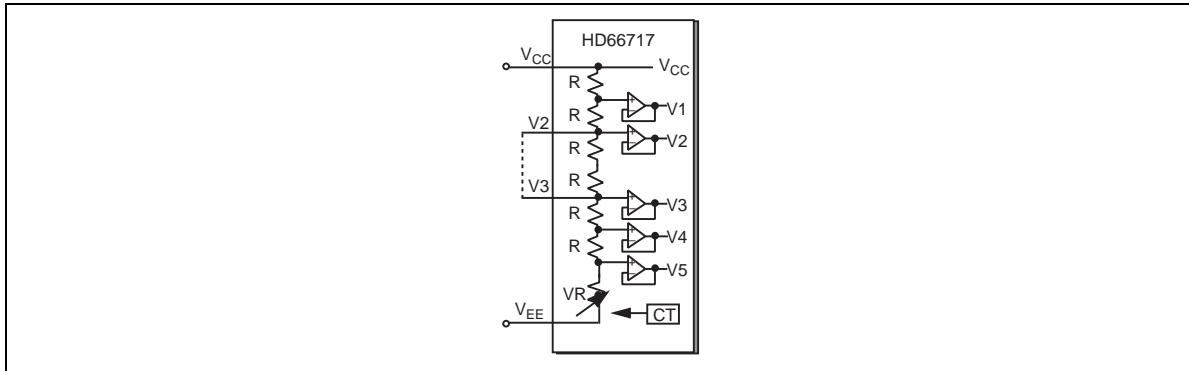

Figure 35 Contrast Adjuster
Contrast for an LCD controlled by the multiplexing drive method can be adjusted by varying the liquid-crystal drive voltage (potential difference between V_{CC} and V5) through the CT bits of the contrast control instruction (electron volume function). See Figure 35 and Table 20. The value of a variable resistor (VR) can be adjusted within the range from 0.4R through 6.4R, where R is a reference resistance obtained by dividing the total resistance between V_{CC} and V5.